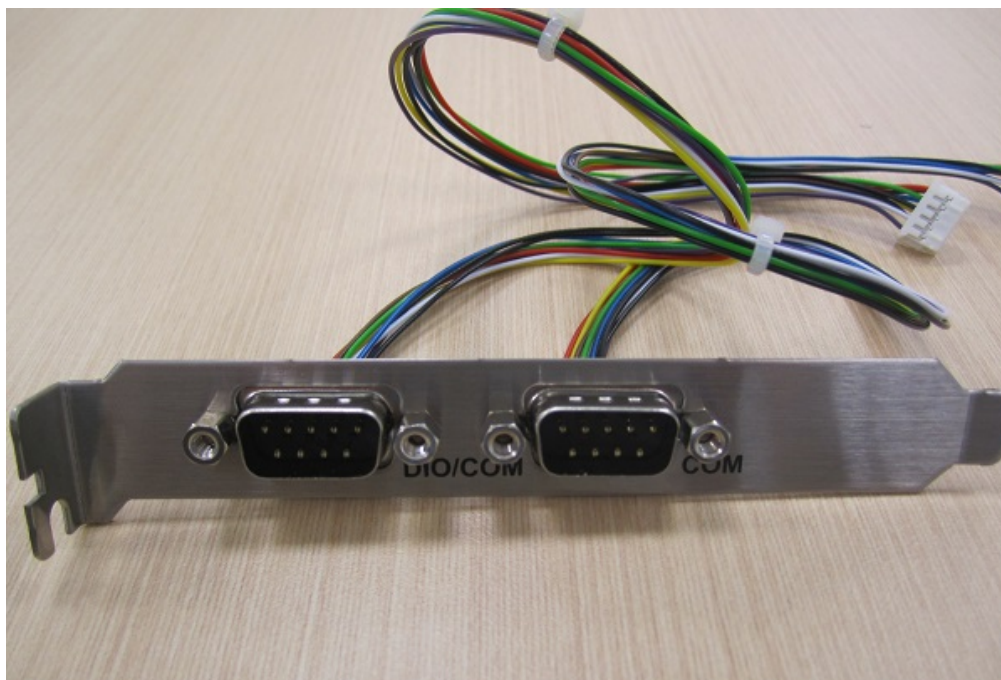

Figure 2.42
3. Remove the two COM connectors from the module case and affix them to the expansion slot shield (as shown in Fig. 2.42).